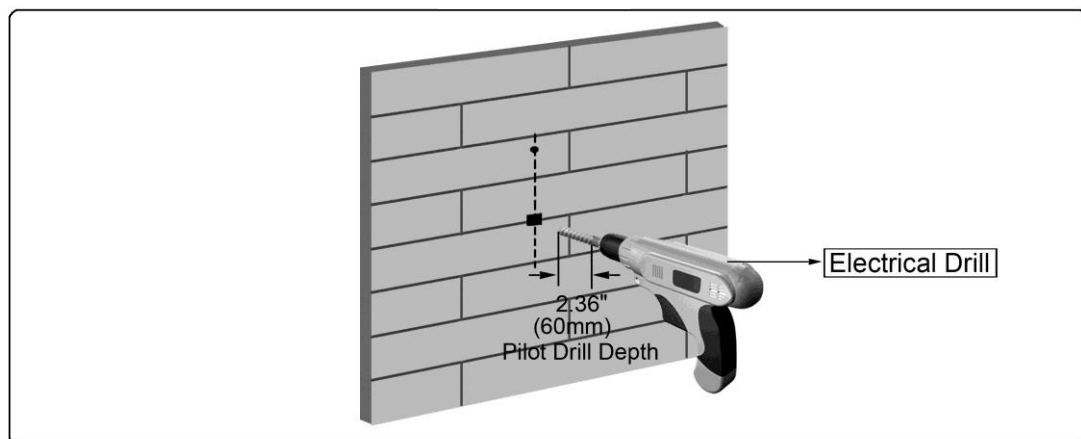

Figure 1-7
2. Ensure that the pilot holes are straight and centered. Proceed to drill pilot holes 2.36" into wall (See Figure 1-7).